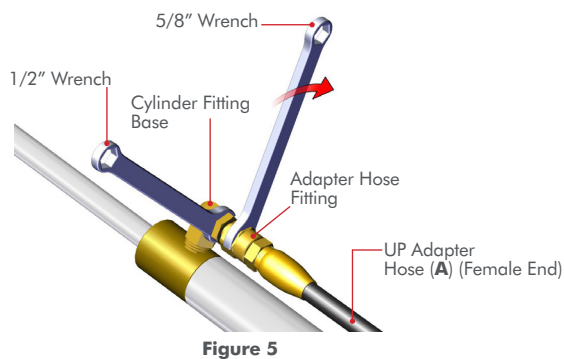

Figure 5
STEP 4: Disconnect the **DOWN Hose** from the **Hydraulic Cylinder Fitting** by holding the **Cylinder Fitting Base** with a **1/2" wrench** and turning the **Hydraulic Hose Fitting** counter-clockwise with a **5/8" wrench**. **FIG 5**
STEP 5: Finger tighten the female end of the **UP (Long) Quick Disconnect Adapter Hose (A)** to the top **Cylinder Fitting**. **FIG 5**
STEP 6: Hold the **Cylinder Fitting Base** with a **1/2" Wrench** and tighten the **Adapter Hose Fitting** clockwise a quarter turn with a **5/8" Wrench**. **FIG 5**